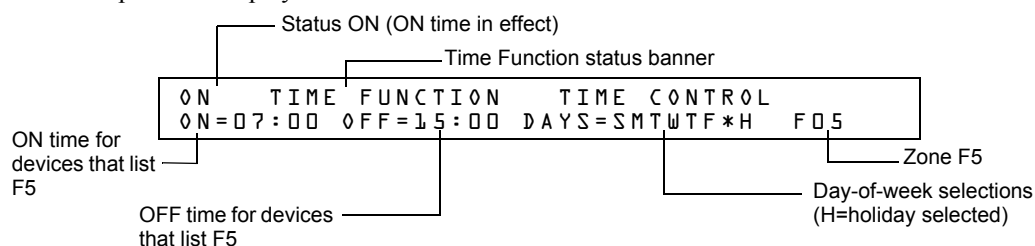

Figure A.4 Sample Read Status for Time Function
Time Control is active for all days of the week listed in F5 or F6. Holidays listed in F7 are excluded unless you list Holidays (H) in the day-of-week selection of F5 and F6 (shown in Figure A.4). Enter the time functions in a 24-hour format with the OFF time later than the ON time. After changing programming using Time Control, always reset the control panel.